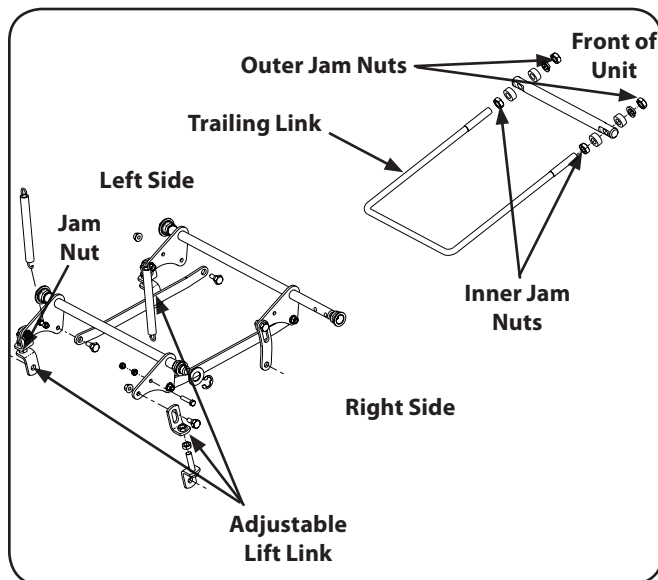

Figure 6-6
5. With a $\frac{3}{4}$ " wrench loosen the lower jam nut of the left side of the lift link. To adjust the side of the deck up or down turn the upper jam nut clockwise (to raise) or counter clockwise (to lower) a few turns. See Fig. 6-6.
8. The final adjustment would be to set the Trailing Link by adjusting the jam nuts on the threaded link. Loosen the jam nuts and tighten the inner nut to achieve the correct length and belt tension. See Fig. 6-6.
To tighten or loosen the tension on the belt, tighten or loosen the jam nuts on the U-rod, see Fig. 6-6, until a ten-pound pull with a spring scale deflects the belt about $\frac{1}{2}$ ".